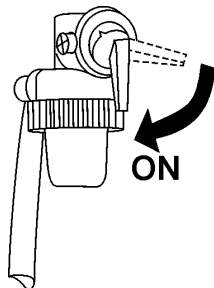

Figure 11. Engine Fuel Valve Lever (ON)
1. Place the engine fuel valve lever (Figure 11) in the **ON** position.